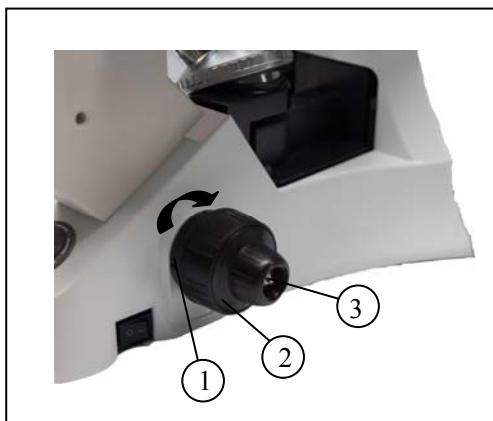

Figure 18
**4-1-3 Adjusting the Tension Adjustment Collar (fig.18)**
If the nosepiece dropped automatically, or the specimen defocused soon even you focus with the fine focus knob ③. It means the coarse focus knob is too loose, you should screw it down at the direction shown by the arrowhead in the figure 18.